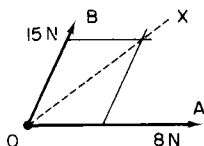

Fig. 2.16 A single force of the correct size acting in the direction OX will have the same effect on the point O as the two forces of 15 N and 8 N
**The parallelogram of forces.** So far we have considered only forces which act in the same straight line. Frequently we need to find the resultant of forces which have different lines of action (Fig. 2.16). The diagram